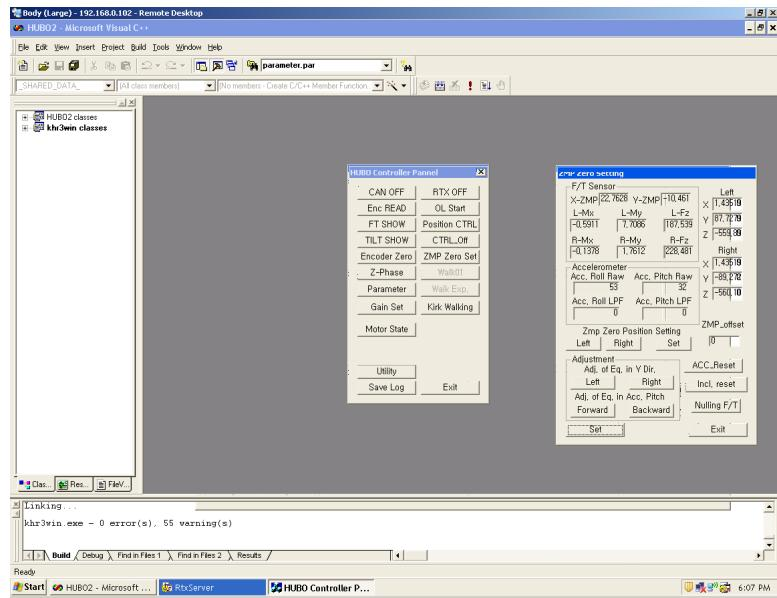

Figure 24: ZMP Zero Set Dialog (After Pressing *Start*)
When *Start* is pressed Hubo starts to move her waist around slightly looking for a specific position. The values for X-ZMP and Y-ZMP will be constantly changing, see Figure 24. Wait until X-ZMP and Y-ZMP are within 0.3 of their respective targets, this normally takes from 3 to 5 minutes. Target Values:
5.42 Click *Set* in the ZMP Zero Set Dialog, Figure 24